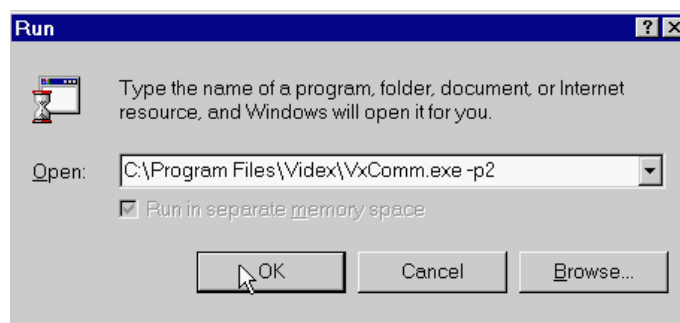

Figure 1-23 Add Vxcom Parameters
29. Add the parameters to the end of the path name (Figure 1-23).